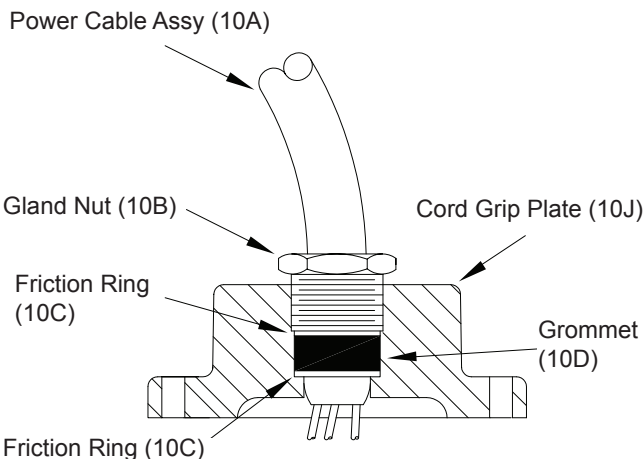
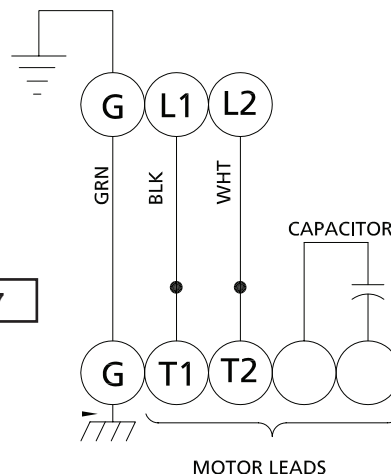

FIGURE 6
FIGURE 7
Check power cable (10A) on cord grip plate (10j), for cracks or damage and replace if required (See Figure 6). Bring motor wires through wire opening in top of housing (2), position square ring (11) in cord grip plate (10j) and reconnect motor leads to power cable using connectors (12) as show in Figure 7.
Refill with cooling oil as outlined in paragraph F-1.3. Position cord grip plate (10j) and square ring (11) over opening. Place lockwashers (4) on cap screws (6), apply thread locking compound to cap screws (6) threads and torque to 16 ft lbs. Remove gland nut (10B), friction rings (10C), and grommet (10D) from cord grip plate (10J) inspect and replace if required (see Figures 6).